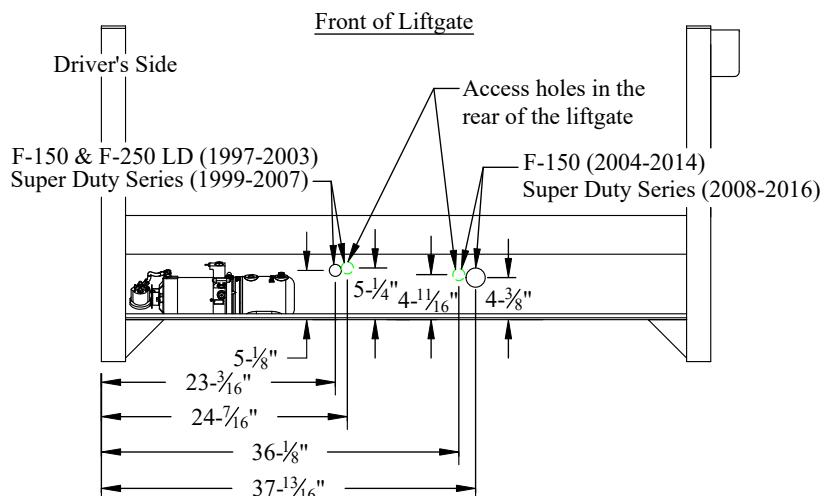

Figure 14: Spare tire access.
2. Remove and Discard the black plastic plug(s) from the mainframe at the location shown (Figure 14).